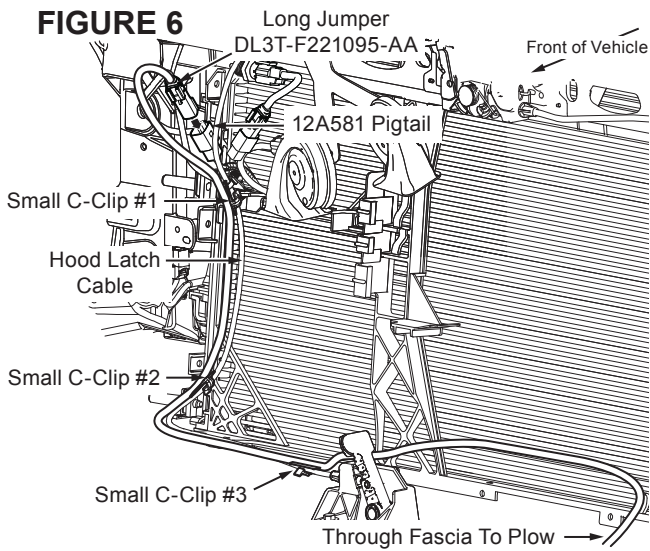

FIGURE 7
7. Route long jumper (DL3T-F221095-AA) through the bumper opening and along the plow wiring (Securing with 2 large PIA C-Clips) up over the plow light bar and into final position under light. Extra length has been provided for use with different plow manufacturer/styles. This extra length can be secured using tie straps or tape. **See Figure 7.**